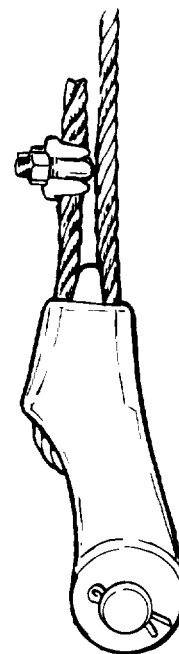

Figure 4-39. *Clamping the Dead End of the Wire Rope*
- Clamp the dead end of the rope (Figure 4-39) (refer to page 2-3).